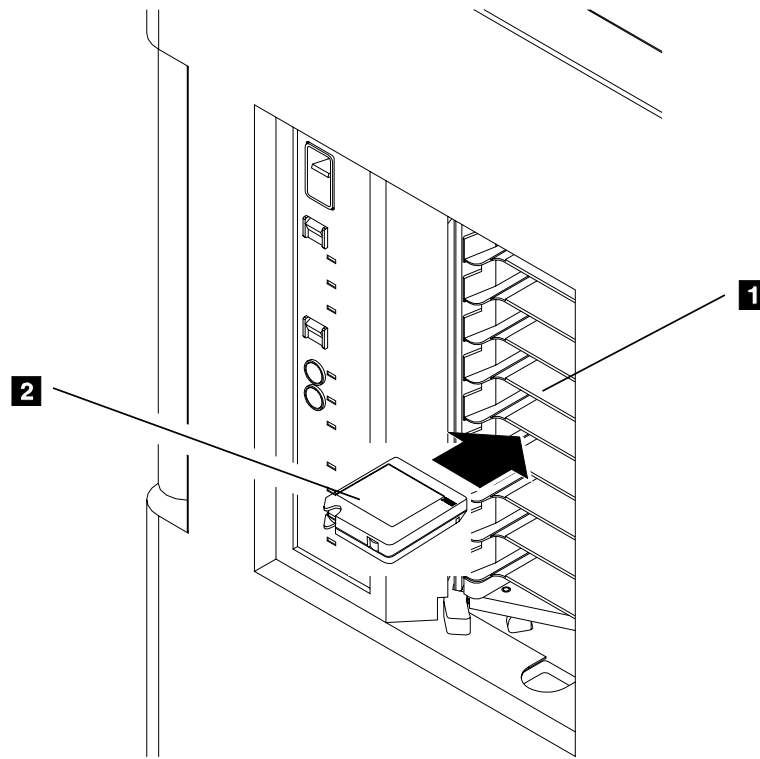
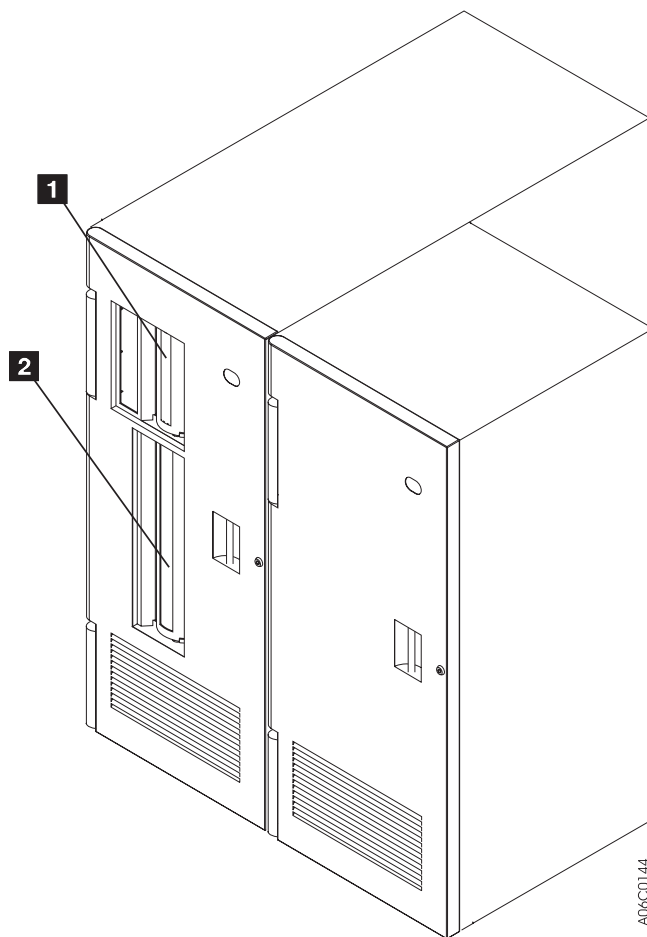

Figure 34. Inserting Cartridges in the Convenience Input/Output Station
Figure 35. Optional 30-Cell I/O
**Note:** The ten-cell I/O station feature is shown in Figure 34 on page 79. Figure 35 on page 80 shows the optional 30 cell I/O. If the 30-cell I/O is installed, the operation remains the same, but there are two operator doors. The upper operator door **1** provides access to the top 10 cells. The lower operator door **2** provides access to the lower 20 cells. (Both doors open together.)
2. Insert the cartridges **2** (see Figure 34 on page 79) that you want to add to the library into the Convenience Input/Output Station **1** with the cut-off corner (and leader block) to the left and the external label facing to the **inside** of the Convenience Input/Output Station. Shut the Convenience Input/Output Station door.